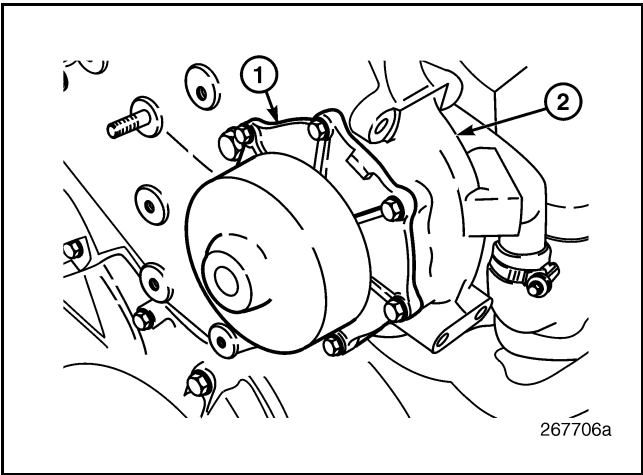

Figure 150 — Pump Cartridge Assembly
2. Remove the seven mounting capscrews and remove the pump cartridge assembly from the water pump housing (Figure 150). Discard the O-ring.